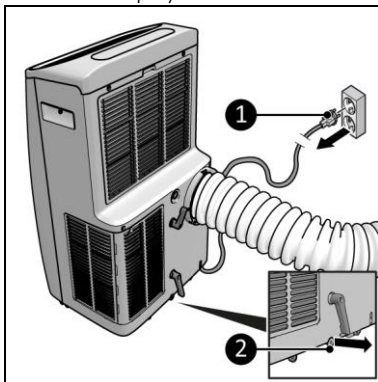

Figure 16
1. Make sure the device is switched off and the plug is removed from the power outlet (Figure 16, pos. 2).
2. Remove the cap from the water discharge point (Figure 16, pos. 2), drain the tank in a container or a well.
1. Make sure the device is switched off and the plug is removed from the power outlet (Figure 16, pos. 1).